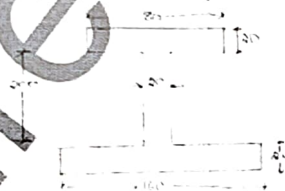

Fig Q6(b)
- The unsymmetrical I-section shown in Fig.Q6(b) is subjected to a shear force of 40kN. Draw the shear stress variation diagram across the depth. (12 Marks)